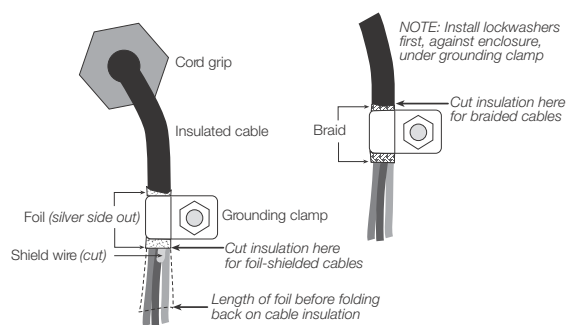

Figure 2-4. Grounding Clamp Attachment for Foil-Shielded and Braided Cabling
- For cables with foil shielding, strip insulation and foil from the cable half an inch (15 mm) past the grounding clamp (see Figure 2-4). Fold the foil shield back on the cable where the cable passes through the clamp. Ensure silver (conductive) side of foil is turned outward for contact with the grounding clamp.
- For cables with braided shielding, strip cable insulation and braided shield from a point just past the grounding clamp. Strip another half inch (15 mm) of insulation *only* to expose the braid where the cable passes through the clamp (see Figure 2-4 on page 9).